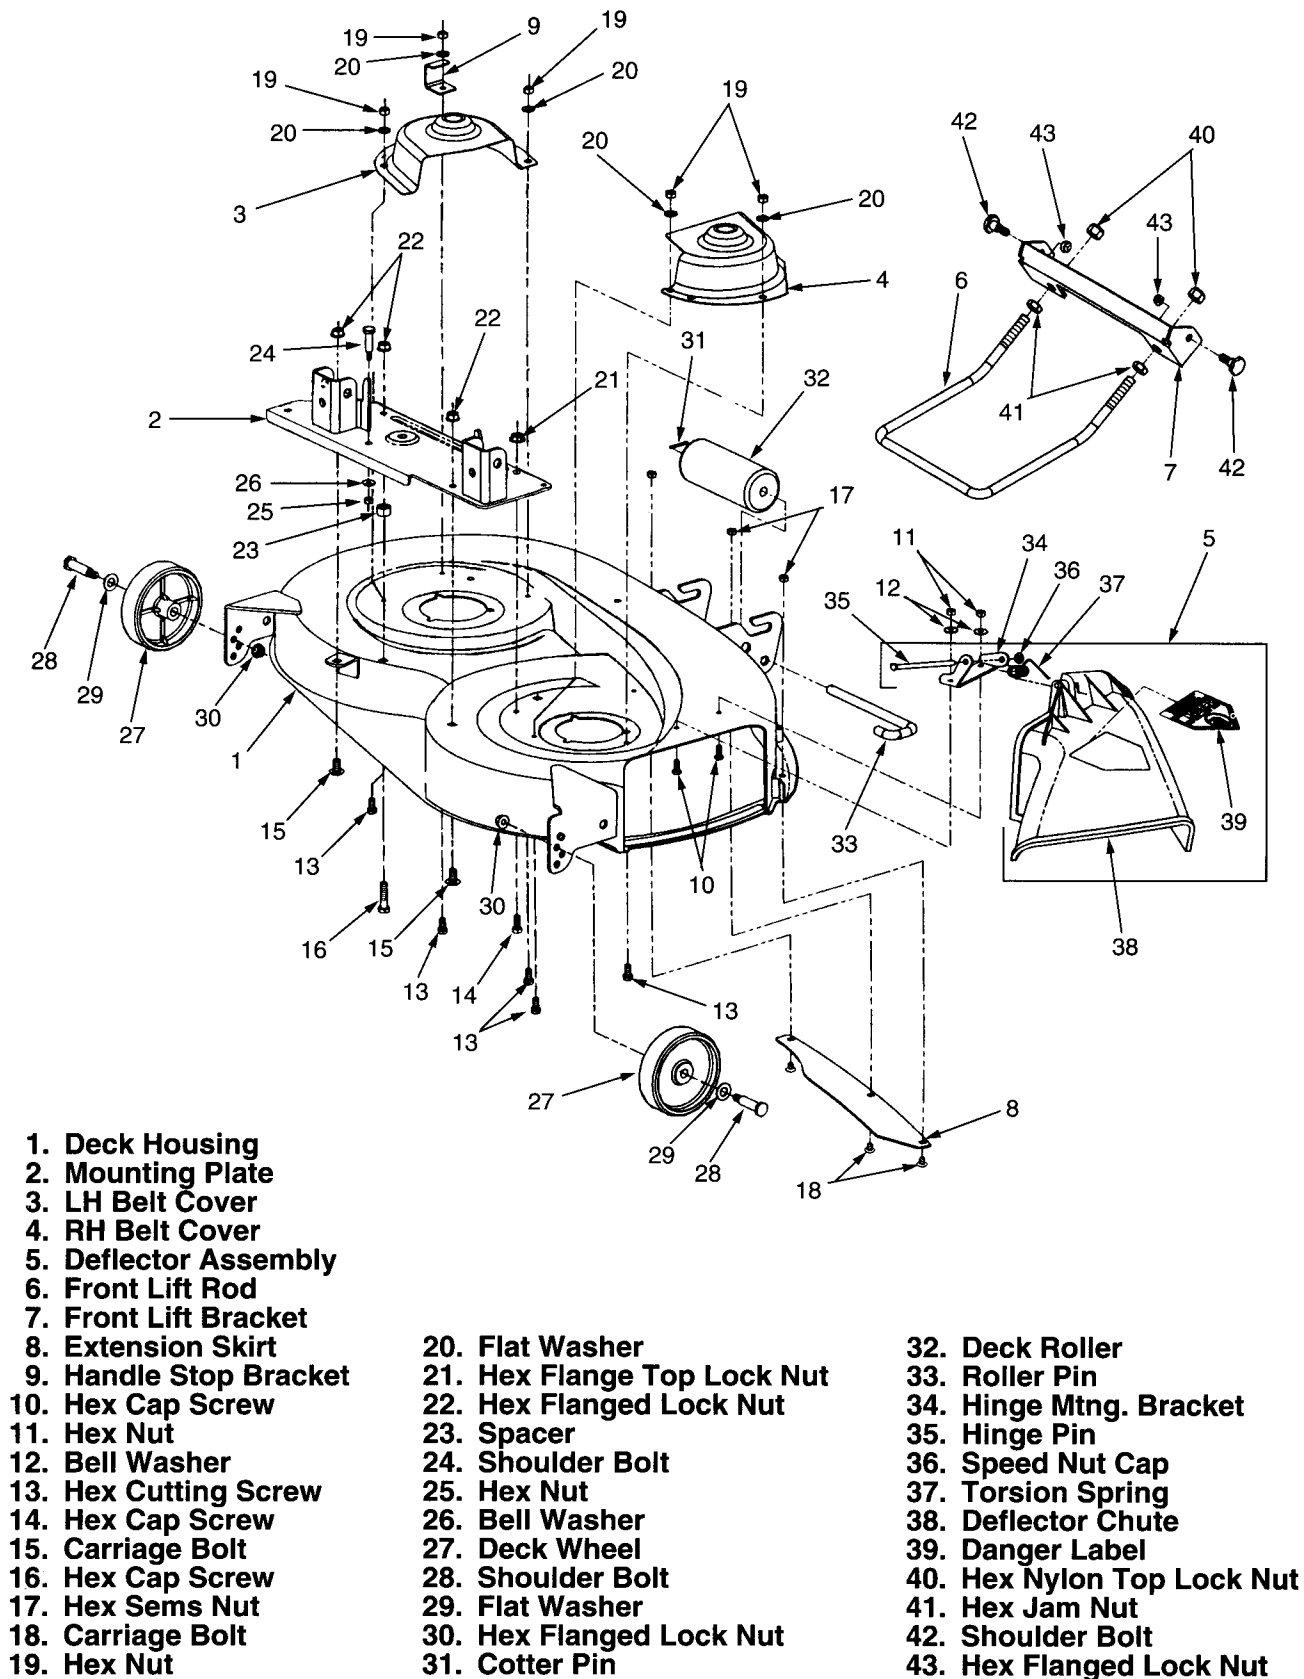
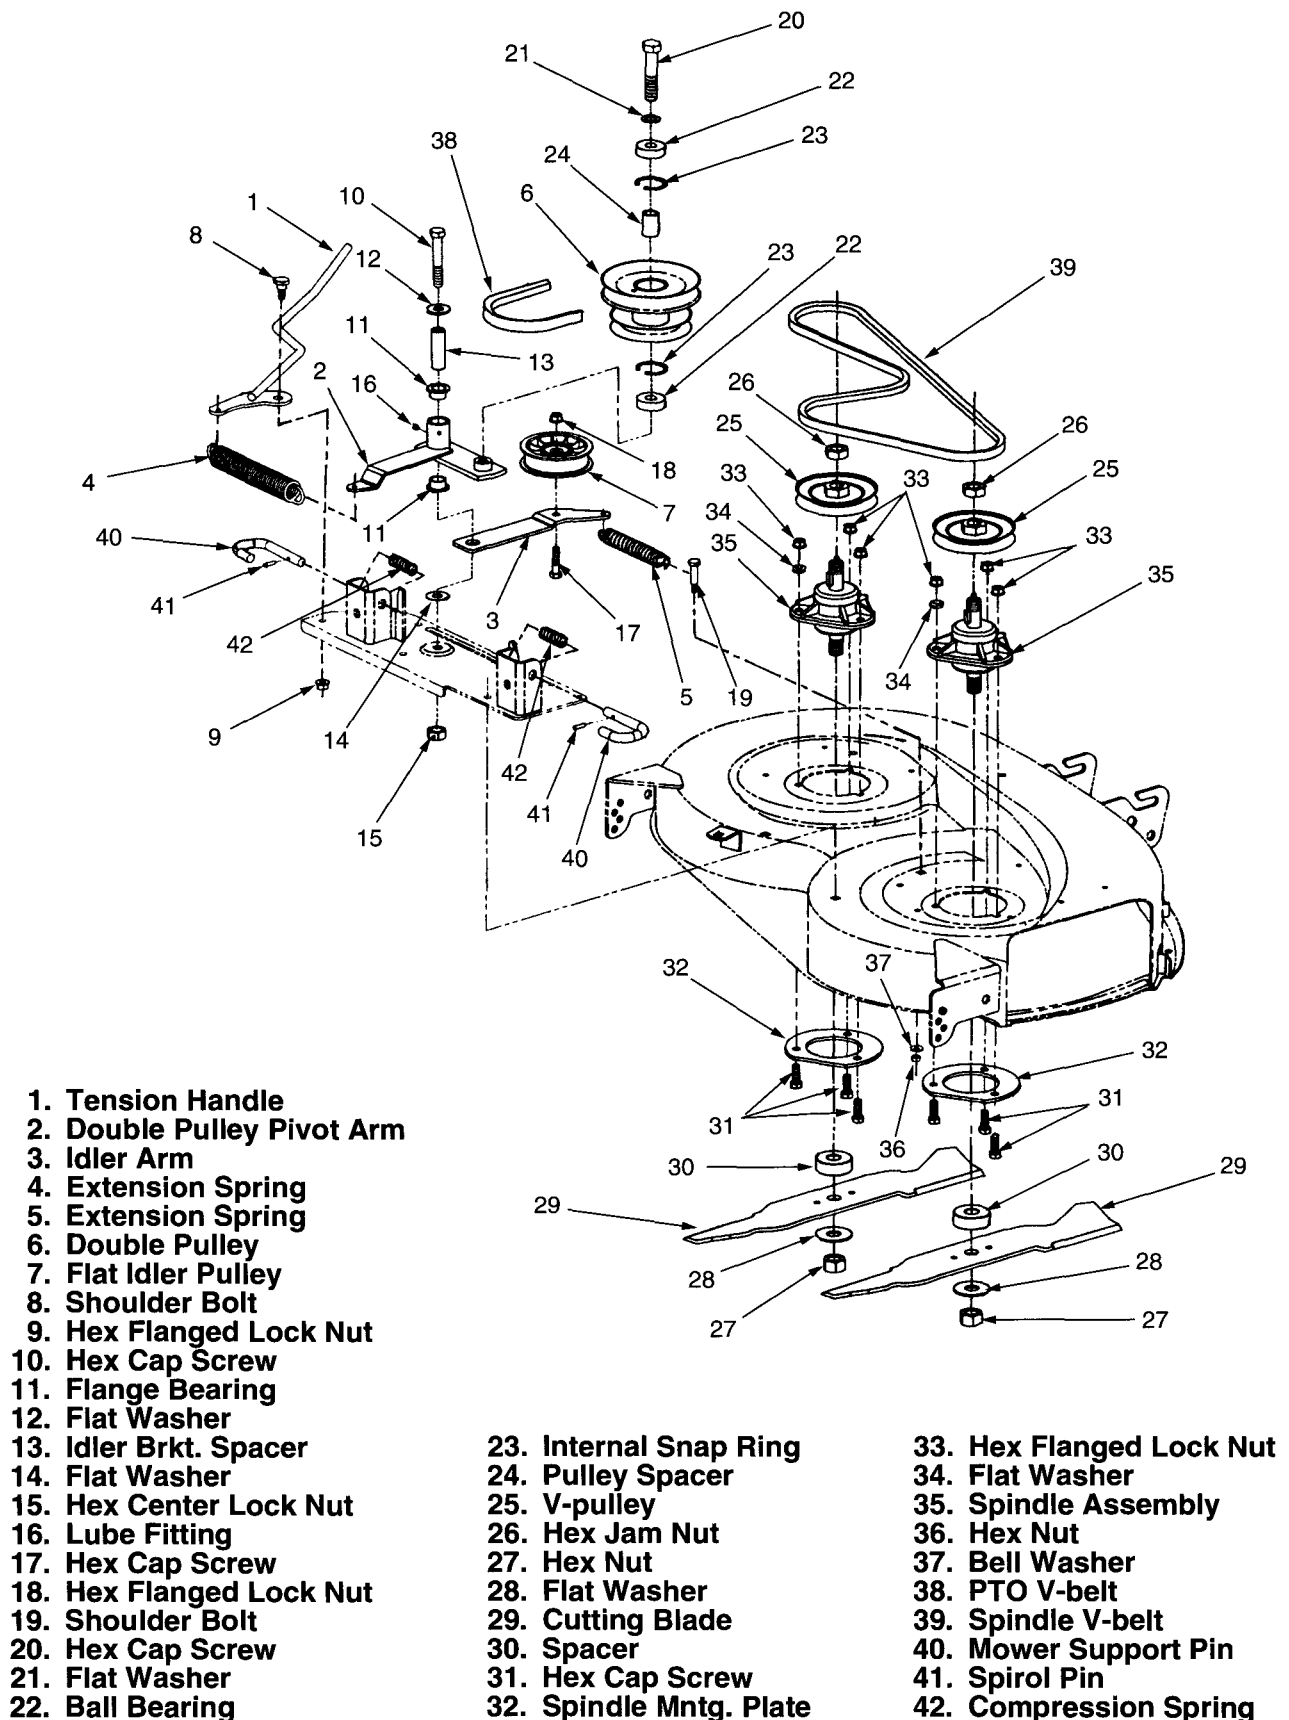

Figure 5-47. Deck and Attachments (Tractor Models 2130 and 2135).
Figure 5-48. Deck Drive Components (Tractor Models 2130 and 2135).
Remove the mower deck from the tractor (see Owner's Manual for correct procedure) and thoroughly clean the entire deck before beginning any repair procedures. Remove the front lift rod/lift bracket (6 and 7, Fig. 5-47) assembly from the tractor frame.
1. Remove the RH belt cover (4, Fig. 5-47) from the deck by removing the hex nuts (19) and flat washers (20) from the hex cutting screws (13). Do not remove the cutting screws from the deck housing (1) unless necessary.
2. If not done previously, release the tension handle (1, Fig. 5-48) from the handle stop bracket (9, Fig. 5-47), and also remove the PTO belt (38, Fig. 5-48) from the PTO clutch.
3. Note the position of the handle stop bracket (9), then remove the stop bracket (9) and LH belt cover (3) from the deck by removing the hex nuts (19) and flat washers (20) from the hex cutting screws (13). Do not remove the cutting screws from the deck housing (1) unless necessary.
4. Rotate the tension handle (1, Fig. 5-48) rearward to remove the extension spring (4) from the tension handle and pulley pivot arm (2).
5. Pull the flat idler pulley (7, Fig. 5-48) away from the spindle V-belt (39) to release the tension and remove the V-belt from the deck.
6. Remove the extension spring (5, Fig. 5-48) from the idler arm (3) and shoulder bolt (19).
7. Remove the deck wheels (27, Fig. 5-47) from the deck housing by removing the hex flanged lock nuts (30), shoulder bolts (28) and flat washers (29).
Never operate the mower deck without the deflector assembly (5, Fig. 5-47) installed and the deflector chute in the down position.
8. Remove the deflector assembly (5, Fig. 5-47) by removing the two hex cap screws (10), hex nuts (11) and bell washers (12).
9. Remove the cotter pin (31, Fig. 5-47) and withdraw the roller pin (33) to remove the deck roller (32).
10. Remove the extension skirt (8, Fig. 5-47) from the underside of the deck by removing the three hex sems nuts (17) and carriage bolts (18).
11. Remove the mounting plate (2, Fig. 5-47) and its assembled components (idler arms and pulleys) as one assembly. After noting the hole location of each, remove the following:
- The hex cap screw (14, Fig. 5-47) and hex flange top lock nut (21).
- The two carriage bolts (15) and hex flanged lock nuts (22).
- The hex cap screw (16), spacer (23), and hex flanged lock nut (22).
Use care when handling the mower blades (29, Fig. 5-48). Sharp edges of the blades could cause cuts to the skin.
When the hex nut (27, Fig. 5-48) is removed, the spindle shaft and V-pulley (25) is free to fall from the spindle assembly (35) when the deck is tipped or inverted to remove the blades. Use care to prevent these parts from falling, which could cause damage or injury.
To prevent the spindle shaft from turning when removing the hex nut (27, Fig. 5-48) and/or hex jam nut (26), use a 1-1/4 inch wrench to hold the hex shaped hub of the V-pulley (25).
12. Remove the cutting blades (29, Fig. 5-48) and spacers (30) from the spindle assemblies (35) by removing the hex nuts (27) and flat washers (28).
If the woodruff key is removed from the spindle shaft when removing the V-pulley (25, Fig. 5-48), the shaft will be free to fall from the spindle housing and may cause damage or injury.
13. Remove the hex jam nuts (26) and pull the V-pulleys (25) from the spindle shafts and woodruff keys.
14. Remove the spindle assemblies (35) and spindle mntg. plates (32) from the deck housing by removing the hex cap screws (31), hex flanged lock nuts (33) and flat washers (34).
15. If necessary, remove the shoulder bolt (19, Fig. 5-48), hex nut (36) and bell washer (37) from the deck housing.
Disassembly, inspection, and reassembly of the spindle assemblies (35, Fig. 5-48) are covered in paragraph 5-37.
1. Remove the tension handle (1, Fig. 5-48) from the mounting plate by removing the hex flanged lock nut (9) and shoulder bolt (8).
2. Remove the hex center lock nut (15, Fig. 5-48) and hex cap screw (10) to remove the upper flat washer [12 (.100 in. thk.)], double pulley pivot arm (2) assembly, idler arm (3) assembly, and lower flat washer [14 (.036 in. thk.)] from the mounting plate.
3. Remove the double pulley (6, Fig. 5-48) assembly from the pulley pivot arm (2) by removing the hex cap screw (20) and flat washer (21).
4. Disassemble the double pulley pivot arm (2) assembly as follows:
- a. Slide the idler brkt. spacer (13) from the hub of the pivot arm.